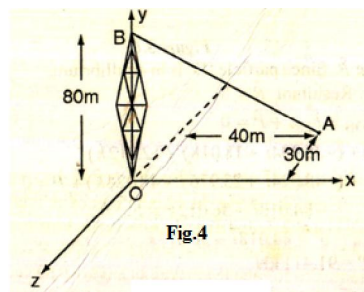

Fig.4
- b) The stay wire of a tower is anchored by means of a bolt at A as shown in Fig.4. (3)